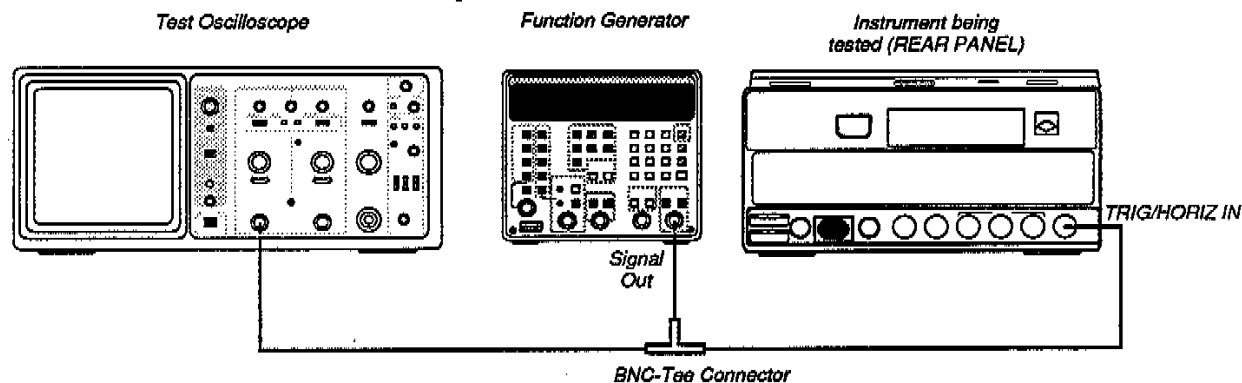

Figure 4-22. Test Equipment Connections for External Sweep Input Check.
2. Connect a 50 Ω cable to the function generator signal output (as shown in Figure 4-22), and connect a BNC-Tee (center) to the other end of the cable.